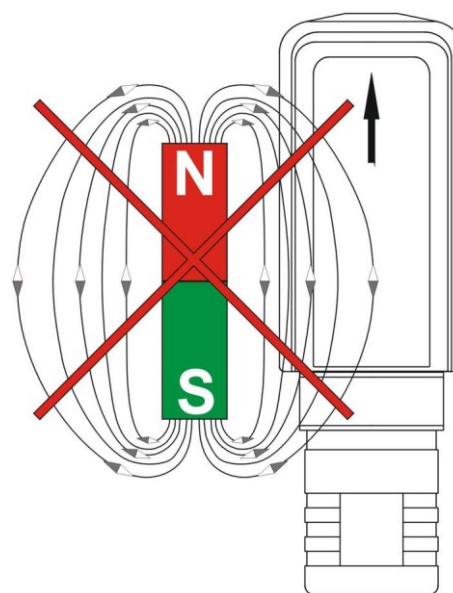

Fig. 4
- Make sure that there are no external magnetic fields in the immediate vicinity of the flow switch, since these can impair device functioning (Fig. 4).